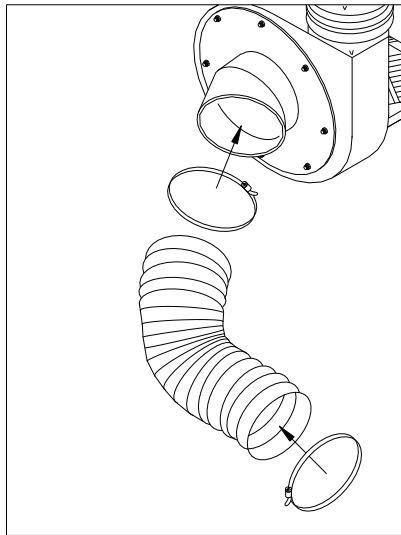

Fig. 13
11. Attach intake hose (25) to inlet on blower housing with 8" band clamp (24). **Fig. 13**